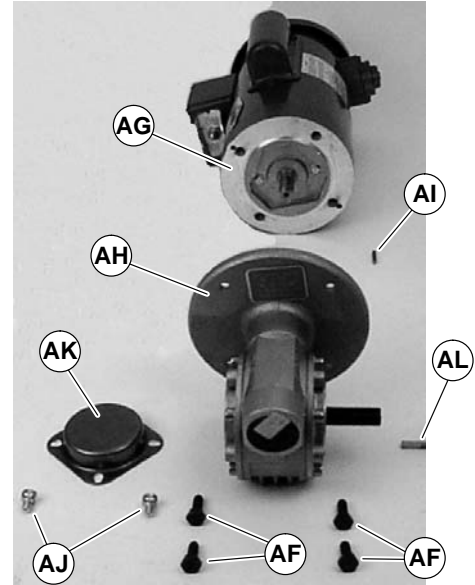

Figure 24
6. Remove four screws (AF of Figure 24). Detach motor (AG) from gear reducer (AH). Retain motor output shaft key (AI).
12. With key (AI of Figure 24) in keyway, slide motor (AG) and gear reducer (AH) together. Install screws (AF) and tighten.